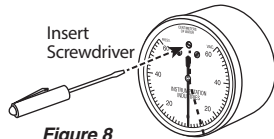

Figure 8
2. Insert a small Flathead Screwdriver Blade into the set screw located at the 12 o'clock position. (Figure 8)